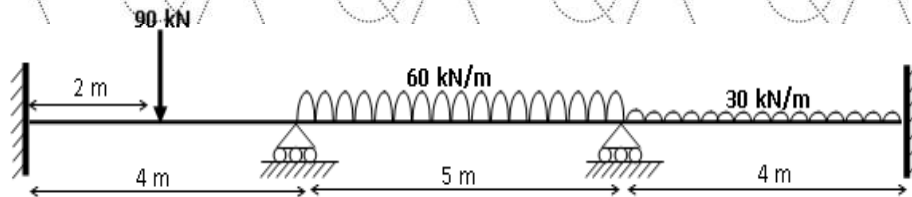

Figure. 8
9. Analyse the continuous beam shown in Figure.8, by Moment Distribution Method. [10]